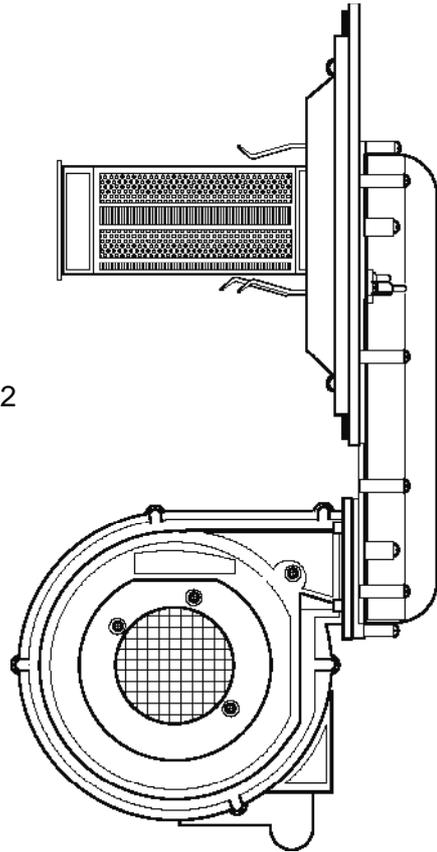

Fig.32
**7.4.2** Drop down the control panel into the service position. Unscrew the gas valve from gas pipe inlet. Disconnect the gas valve electrical plug at the gas valve. Disconnect the electrical plug leads from the fan. Disconnect the electrode leads from the electrodes. Remove the five combustion chamber retaining nuts and gently remove the fan, gas control valve, electrodes and burner assembly from the combustion chamber. (Fig.32).